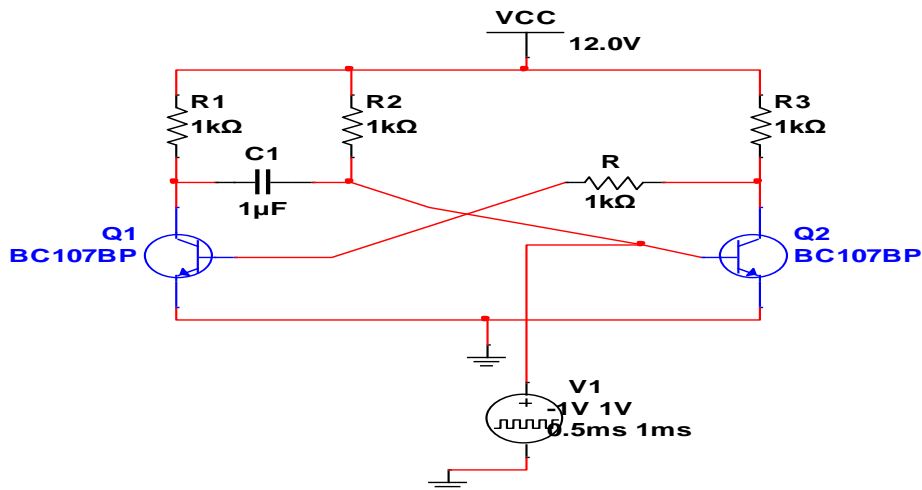

Figure10.2: Monostable Multivibrator
10.2 Simulate monostable multivibrator as shown in figure 10.2 using MULTISIM and plots output waveforms.